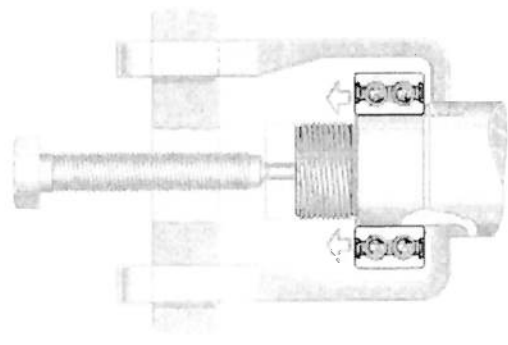

Fig. 3 - Extraction device for bearing rings
- if the bearings are to be mounted with a tight fit, grooves should be provided in the shaft or housing bore to allow the rings to be removed (see Figure 3).